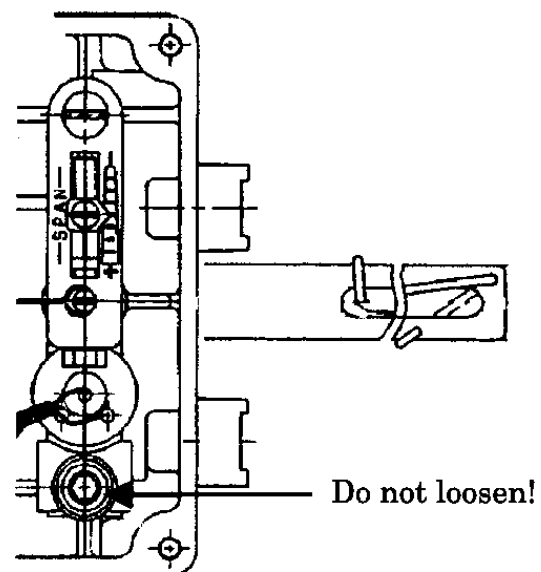

Fig.3 Mounting of potentiometer diagram
- ① The potentiometer is difficult to adjust, so the operating direction cannot be changed by customers.
- ② Do not loosen the pointed screws with arrows on Figure 3 because it will be a cause of operating failure or result in a decline in accuracy.